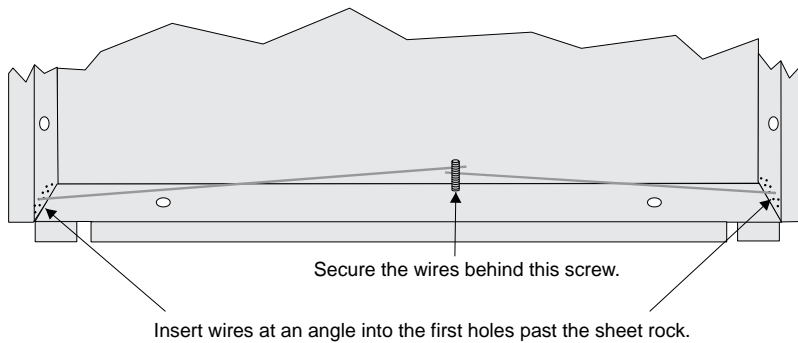

Figure 4-14 Flush Mounting the Back Box
3. Fit the annunciator back box into the hole and stabilize with mounting wires. Angle the mounting wires into the first hole past the sheet rock. Secure the wires behind the screws as shown in Figure 4-14. When all four wires are in place, the back box should fit snugly into the hole in the sheet rock.